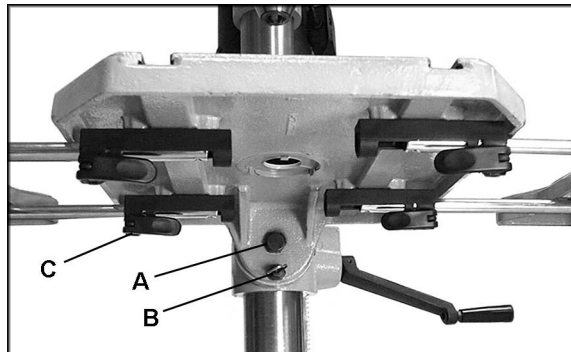
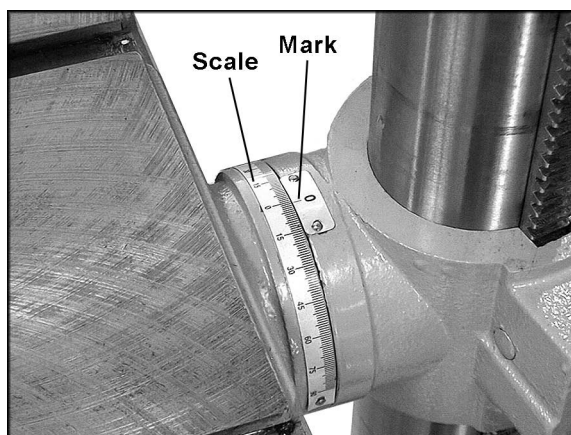

Figure 15
Figure 16
- To tilt the table, loosen the bolt (A, Figure 15) slightly and pull out on the indicator pin (B, Figure 16). The indicator pin will engage at 0, 45 and 90 degree positions of the table.
- Pivot the table to desired angle by aligning the scale (in degrees) on the table to the line on the table bracket (Figure 16).
- Re-tighten bolt (A, Figure 15).
Loosen the handles (C, Figure 15) and slide the extensions outward, then re-tighten the handles.